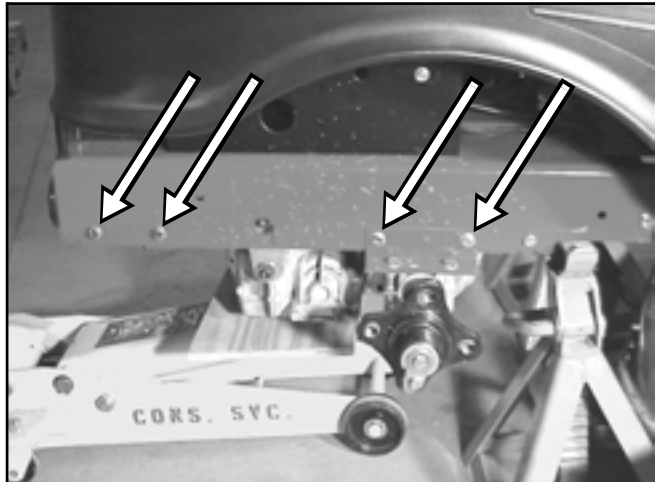

Figure 34
- Remove the 4 bolts located on the right side of the frame (Figure 34).